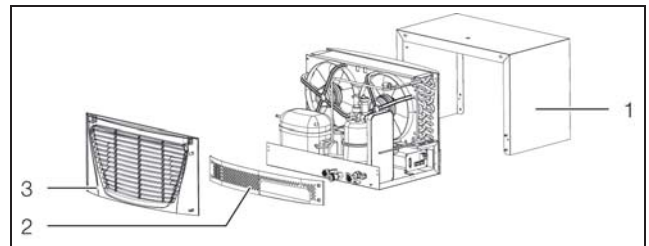

Fig. 40: Preparing the PLC connection (3318.600, 3318.610 and 3319.600, 3319.610)
- Remove the louvred grille (fig. 40, item 3) on the rear of the chiller.
- Remove the belt (fig. 40, item 2) and the housing (fig. 40, item 1).